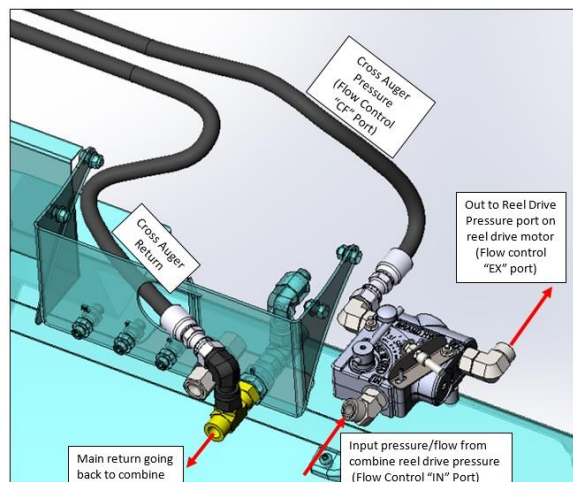

Figure 223
3. The reel pressure hose from the combine attaches to the "IN" port on the valve. The oil is then split between the reel and the cross auger. The return oil from the reel and the cross auger go directly the combine return line. Figure 223